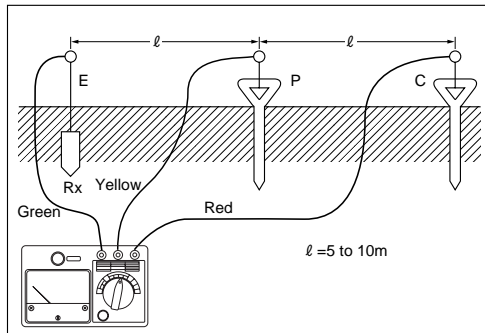

Fig.1
- (1) Set the range dial to "CH", make connections as shown in Fig.1 with the accessory leads (green, yellow and red) and the auxiliary spikes (P, C). Push the switch to assure that the pointer comes into the CH blue belt. Then turn the dial to " $E\Omega$ " and push the switch again selecting a suitable range according to the earth resistance.
Connect earthing electrodes (E) and auxiliary spikes (P, C) to the main body using the accessory lead lines as shown in Fig. 1. Leave space of 5 to 10 m between E and P, and between P and C respectively. E, P and C should be approximately in a line.